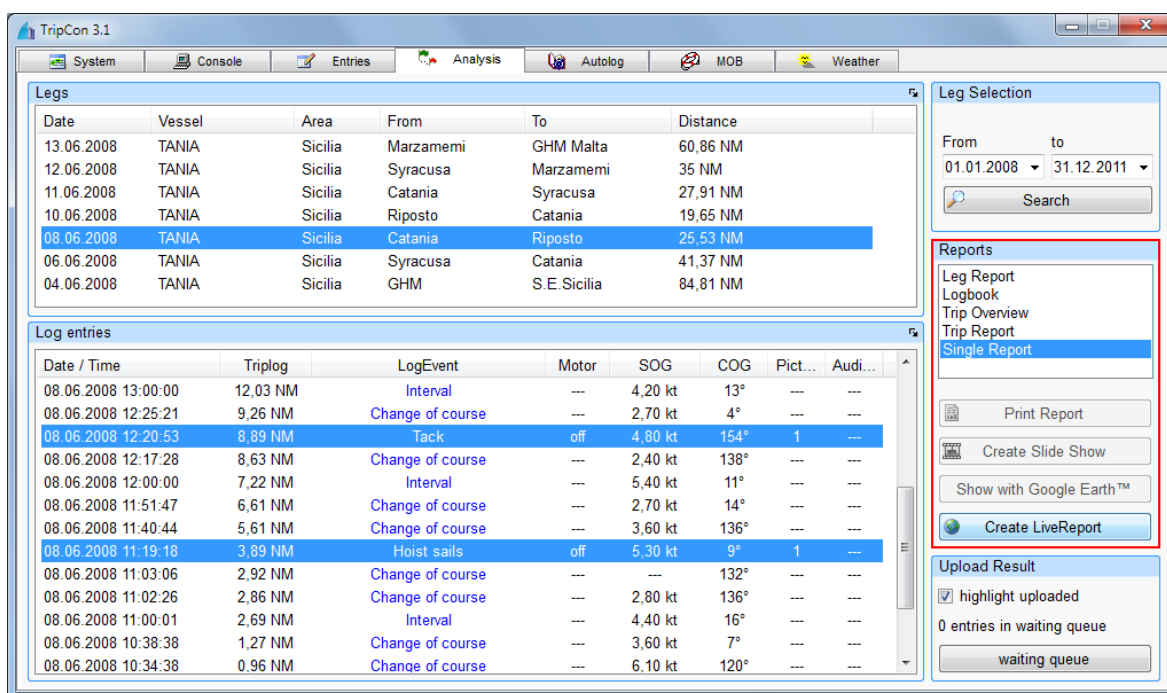

Figure 149: Generating a LiveReport
- Select “Single report” and hit the button “LiveReport” (see Figure 149)